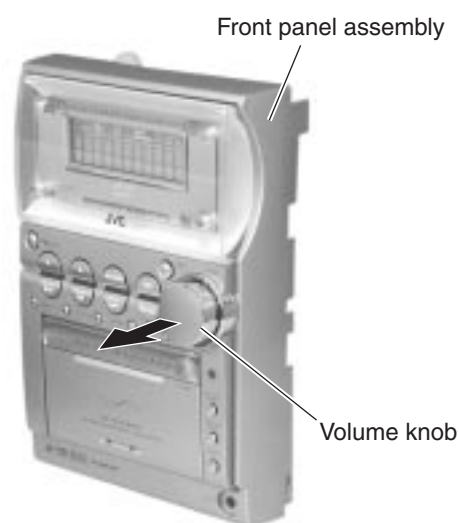

Fig.36
■ Removing the key board (See Fig.36~38)
2. Remove the five screws **W** attaching the bracket (1) on the back of the front panel.